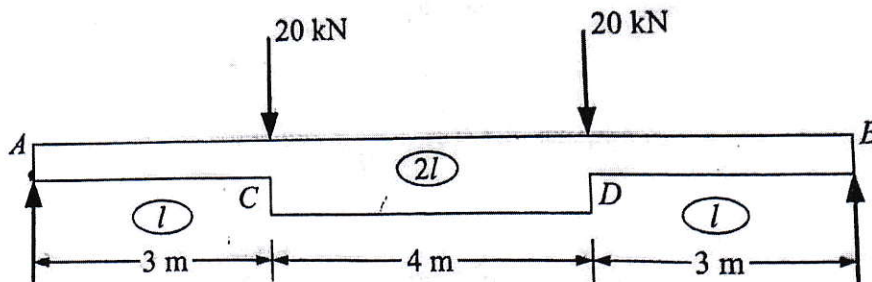

Fig. 3
- b) Determine rotation at A, B and deflection at the midspan in the beam as shown in figure 3. Take $EI = 4000 \text{ KNm}^2$. 8